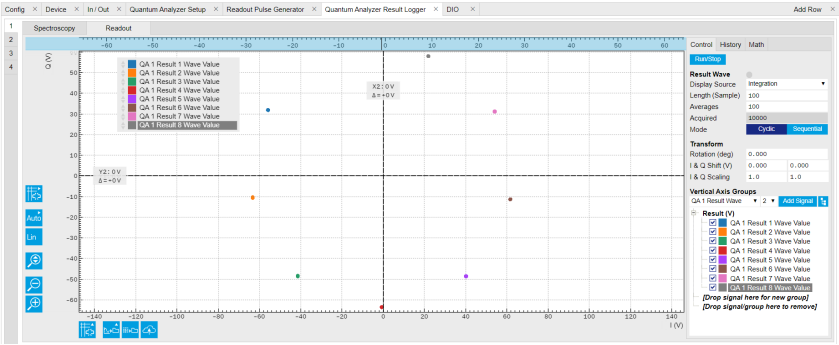

Figure 4.19: Measurement results on QA Result Logger Tab.
- The measurement result is displayed on QA Result Tab, as shown in Figure 4.19. The data format of measurement result is complex data. The spread of the readout results indicates that each component of the input signal has a similar amplitude but different phase delay.